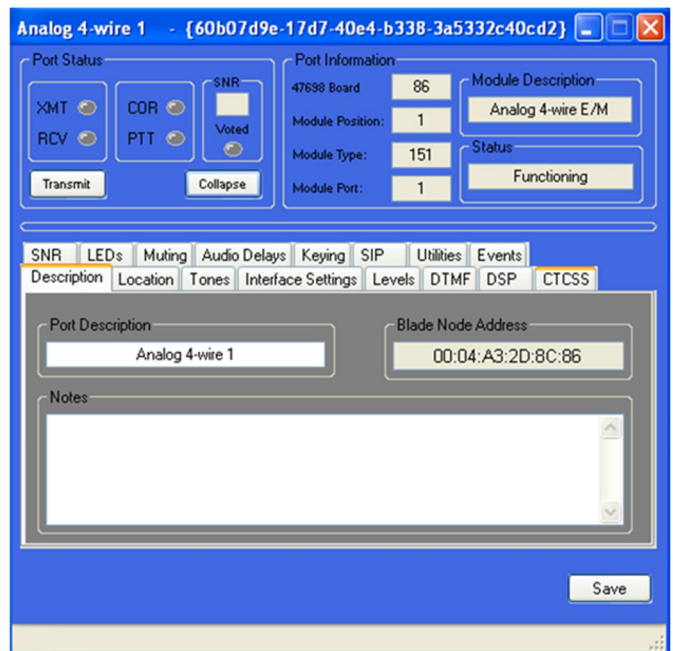

Figure 31: Main Setup Screen
4. The following screen will appear allow the user to make configuration changes with every tab. Refer to Figure 31.